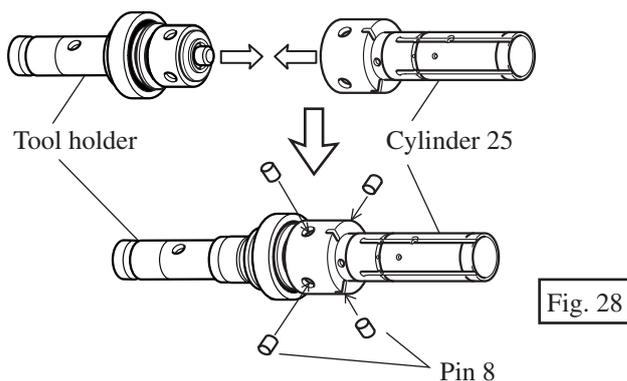

Fig. 28
(3) Join cylinder 25 and tool holder with 4 pcs. of pins 8 as illustrated in Fig. 28.